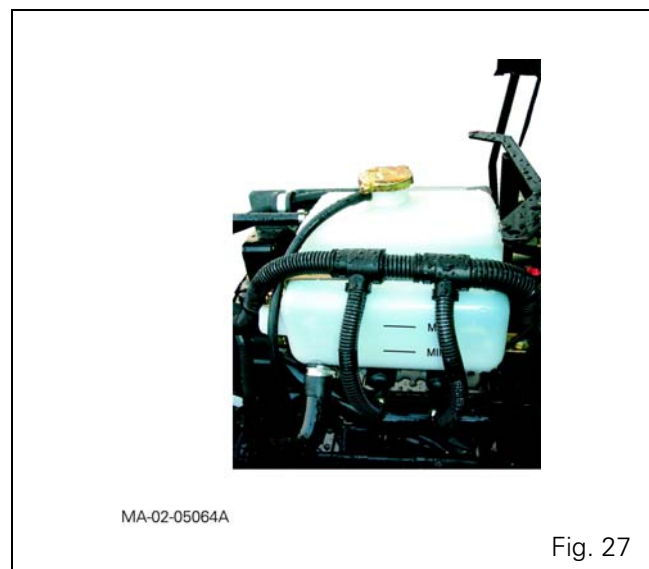

Fig. 27
- of coolant to the maximum level marked on the radiator and expansion tank (Fig. 27).